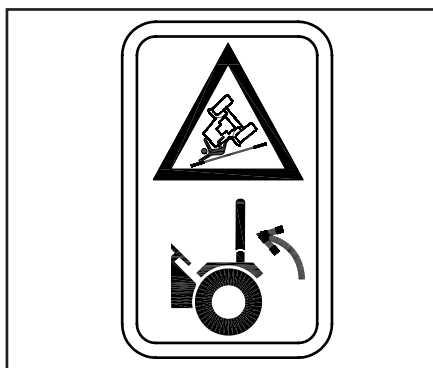

Fig. 2.26.4
29.5 580A1605 (Fig.2.26.4)**Danger of overturning**